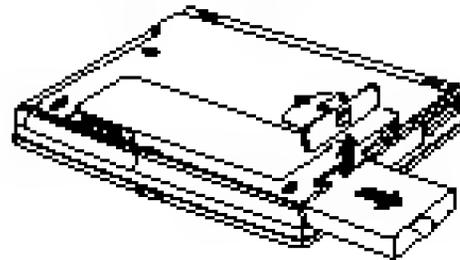

Figure 16. Removing the Battery Pack
3. Slide the battery compartment cover straight up and off the computer (Figure 16).